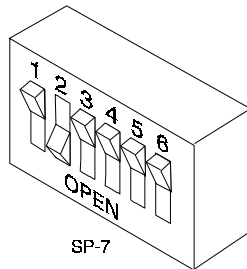

Figure D-68. Switch Settings for Signal Processor Circuit Cards (AYC2B, AYC2C, and AYC9) SP-0 through SP-7
Set the switches as shown in Figure D-68 for the correct I/O address switch settings for cards SP-0 through SP-7.
Notice in Figure D-68 that the switches are numbered one (1) through six (6). Switch 1 is a no-option switch. This means its setting is not important. The figure shows this switch as open, but it does not matter if it is open or closed. Switch 2 must be closed. Switch 3 must be open. Figure D-68 also displays the OS index number for the corresponding switch settings. CONVERSANT uses this index to identify each SP card.